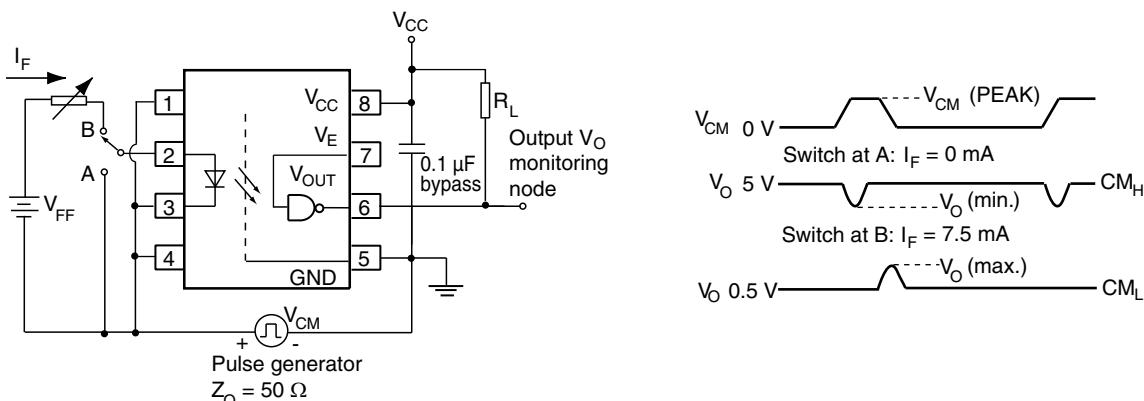

Fig. 4 - VOW137 Test Circuit for Common Mode Transient Immunity
- (1) Over recommended temperature ($T_{amb} = -40^\circ\text{C}$ to $+100^\circ\text{C}$), $V_{CC} = 5 \text{ V}$, $I_F = 7.5 \text{ mA}$ unless otherwise specified. All typicals at $T_{amb} = 25^\circ\text{C}$, $V_{CC} = 5 \text{ V}$.
- (2) Minimum and maximum values are testing requirements. Typical values are characteristics of the device and are the result of engineering evaluation. Typical values are for information only and are not part of the testing requirements.
- (3) With pulling V_E to logic high state will improve the CMR performance.
- (4) VOW137 CMTI test circuit refer to figure 4.